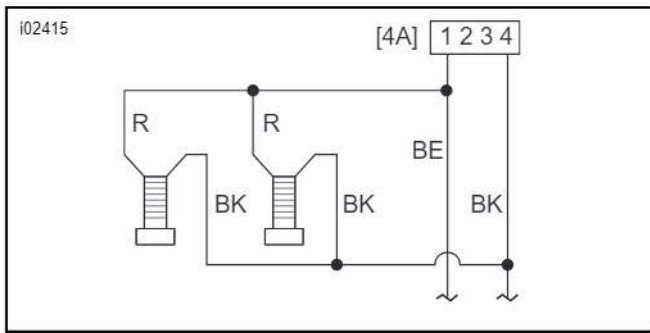

Figure 18. Splicing the Lighted License Screw Wires (Touring Models)
See Figure 18. Splice the red wire into the blue wire from connector [4A] using a butt-splice electrical connector (15) from the kit.